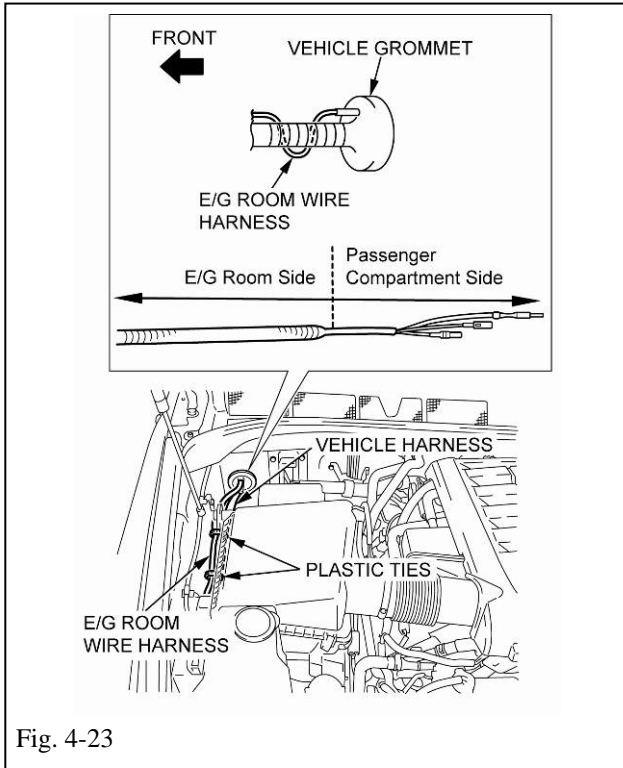

Fig. 4-23
- (x) Make a loop in the E/G R W, as shown, and secure with two (2) plastic ties (150 mm black) (exterior area by the grommet). (Fig. 4-23)